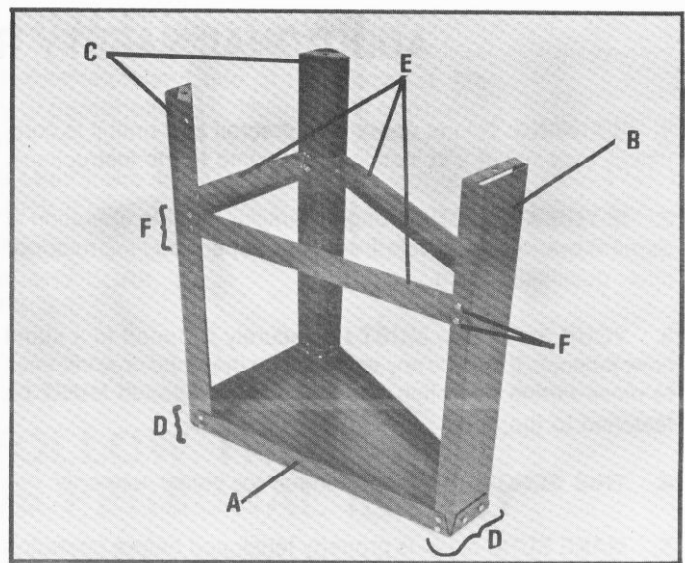

Fig. 4
1. Lay top shelf (A) upside down on floor, as shown in Fig. 4, and assemble one rear leg (B) and two front legs (C) to top shelf using the fourteen 5/16-18 x 3/4" hex head screws, 5/16" lockwashers, and 5/16"-18 hex nuts (D). NOTE: All three legs are to be positioned inside the top shelf, as shown.
2. Assemble the three tie bars (E) to the legs, as shown in Fig. 4, using the twelve 5/16-18 x 3/4" hex head screws and 5/16"-18 hex nuts (F).